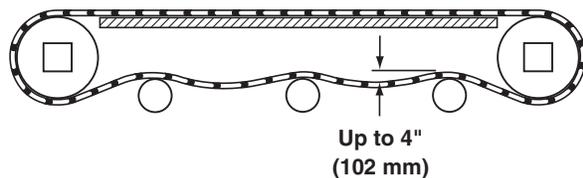

Figure 41
4. Check belt sag by measuring from the top of the return (Figure 41). Belt sag should not exceed 4" (102 mm). Follow steps 7 – 9 in the “Belt Installation” section on page 13 to remove slack from the belt.